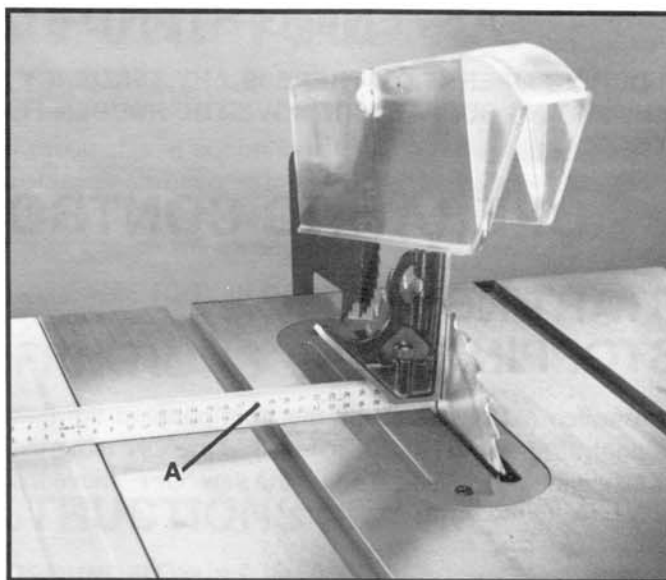
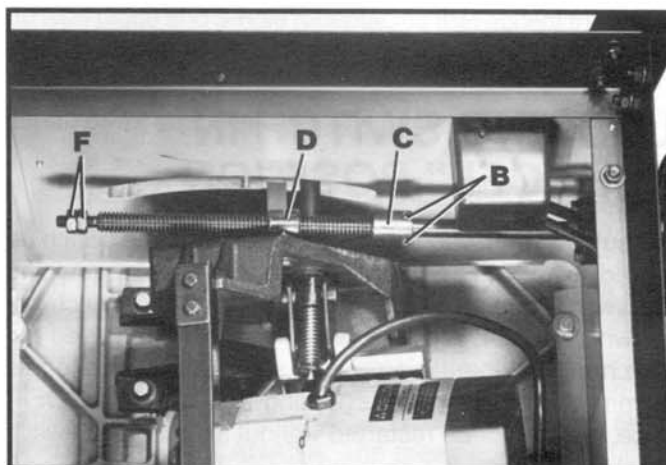
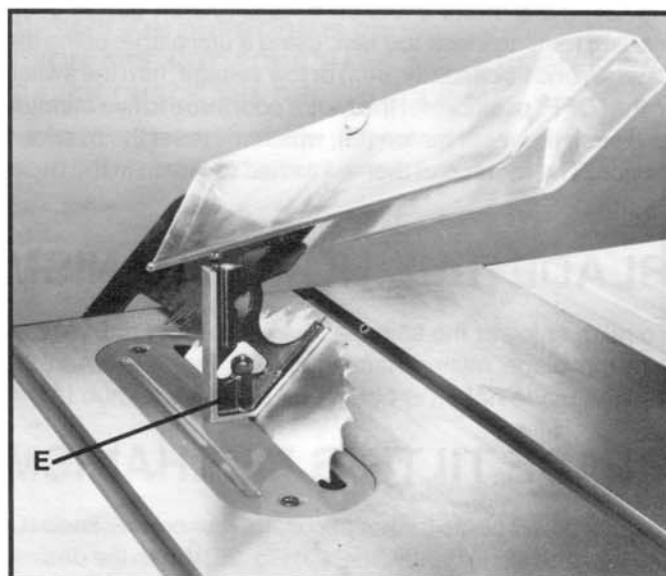

Fig. 26
Fig. 27
Fig. 28
2. Turn the blade tilting handwheel clockwise as far as it will go. Place a square (A) on the table and against the blade, as shown in Fig. 26, and check to see if the blade is at 90 degrees to the table. If the blade is not at 90 degrees to the table, loosen two set screws (B) Fig. 27, back off collar (C) and turn the blade tilting handwheel until the blade is at 90 degrees to the table. Then adjust collar (C) Fig. 27, so that it contacts bracket (D) when the blade is at 90 degrees to the table and tighten the two set screws (B).
3. Turn the blade tilting handwheel counterclockwise as far as it will go. Place a combination square (E) on the table and against the blade, as shown in Fig. 28, and check and see if the blade is at 45 degrees to the table. If the blade is not at 45 degrees to the table, back off the two locknuts (F) Fig. 27, and turn the blade tilting handwheel until the blade is at 45 degrees to the table. Then adjust the locknuts (F) Fig. 27, so that the inside nut contacts bracket (D) when the blade is at 45 degrees to the table.